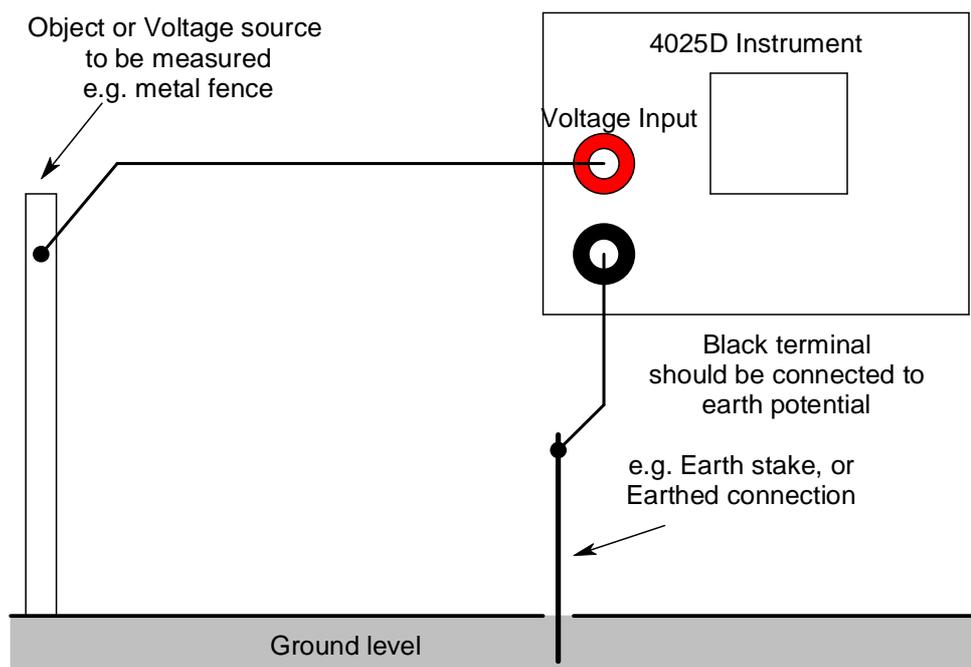

Figure 1. Recommended voltage input connection.
2. When measuring a voltage that is referenced to earth, always connect the EARTH connection wire to the BLACK input terminal. This will ensure the rest of the exposed metal parts on the front panel of the instrument (Rogowski outer metal sleeve, BNC outer connection and USB shield) are as close to earth potential as possible when the voltage signal is connected. Failure to do so may expose those metals parts to the high voltage source. An example of the recommended connection is shown in the diagram below (Figure 1).